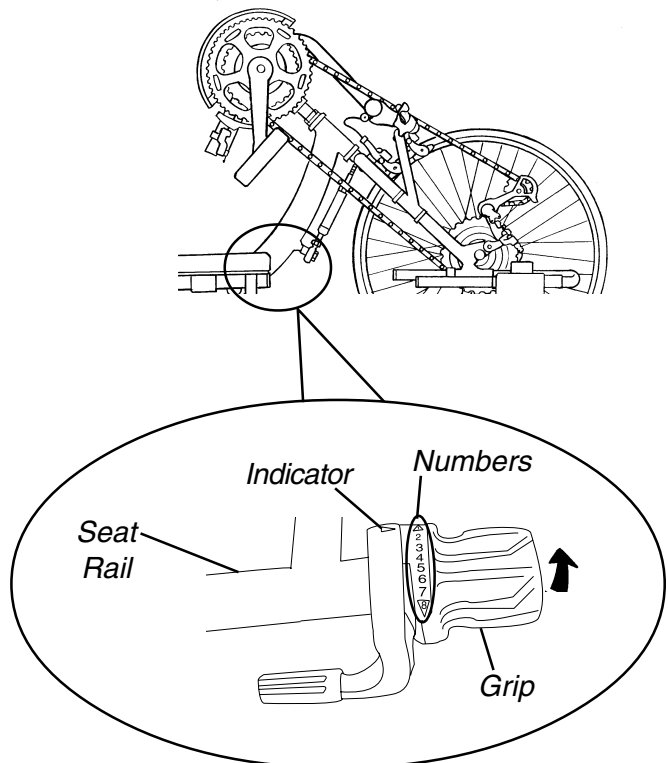

FIGURE 2 - EXCELERATOR XLT TWENTY-FOUR (24) SPEED
Excelerator XLT Twenty-four (24) Speed (FIGURE 2)